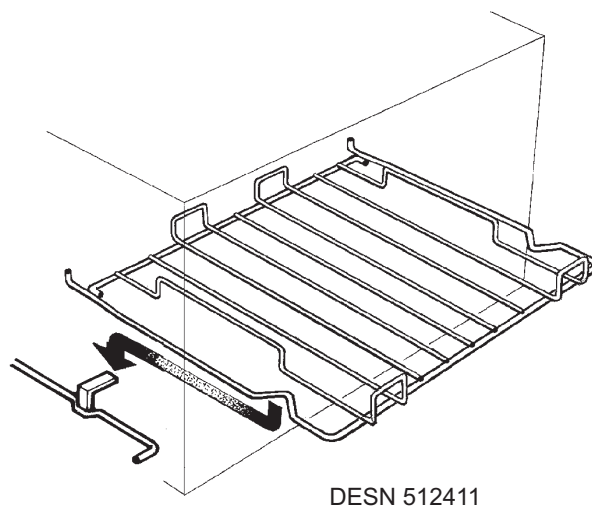

Fig. 18B
- The grill pan fits on the shelf supplied. The shelf is designed to lock in place, but is removable for cleaning. See Fig. 18B .